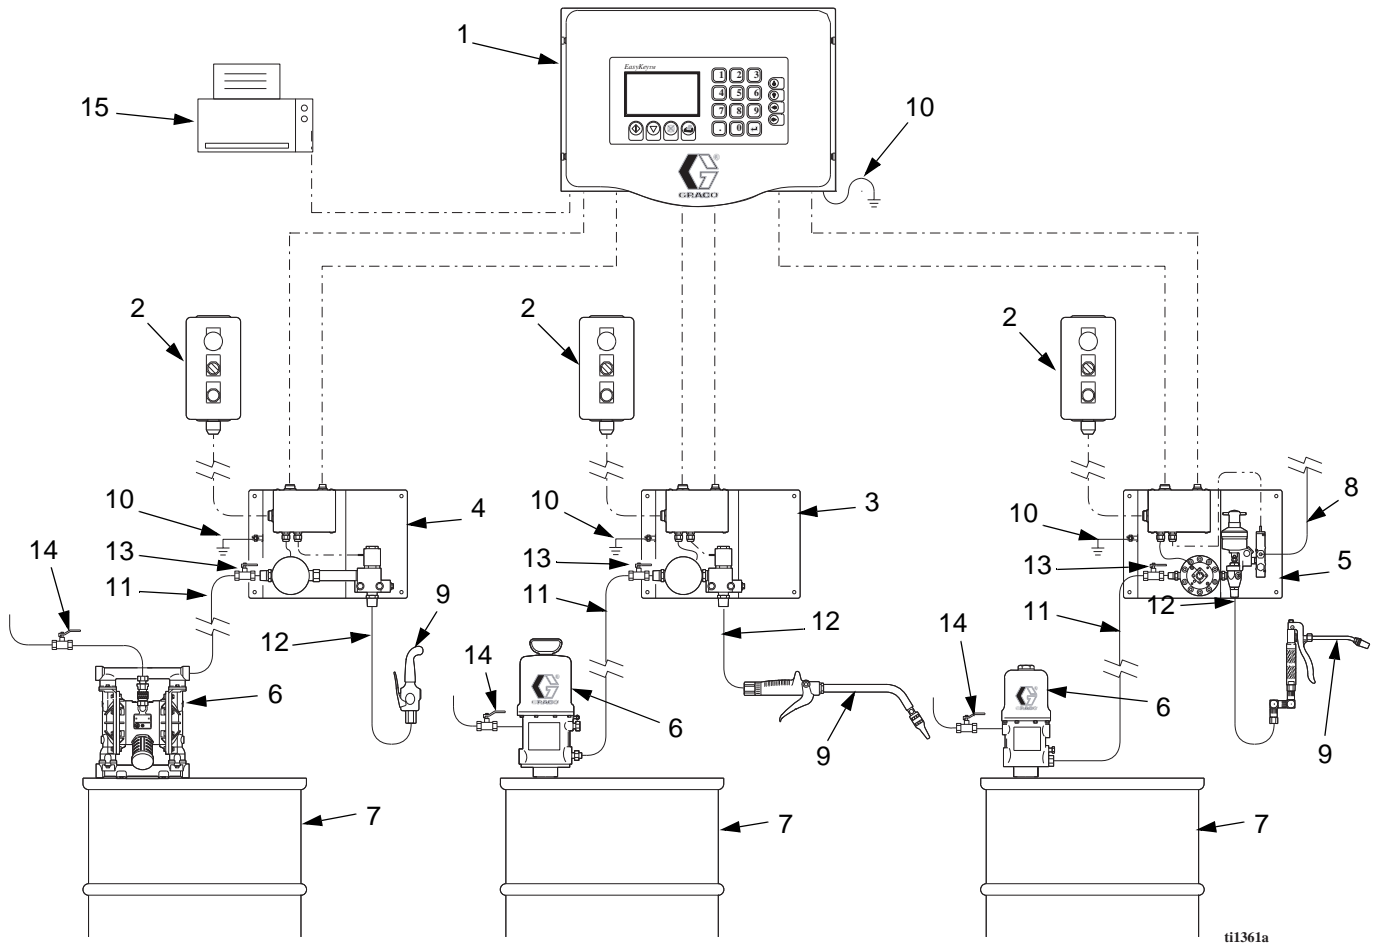

FIG. 5 ProDispense System - Typical Installation
- FIG. 5 is not an actual system design. Contact your Graco distributor for assistance in designing your system.
Key for FIG. 5
Connect the fluid supply line (11) to the 1/2" npt(f) meter inlet. See FIG. 5. Connect a fluid dispense line (12) to the 1/2" npt(f) solenoid outlet. Connect the other end to the dispense valve (9).
Connect the 5 ft. (1.52 m) printer cable (provided with printer kit 239873) between the printer and controller printer connector marked . See FIG. 5, page 15.